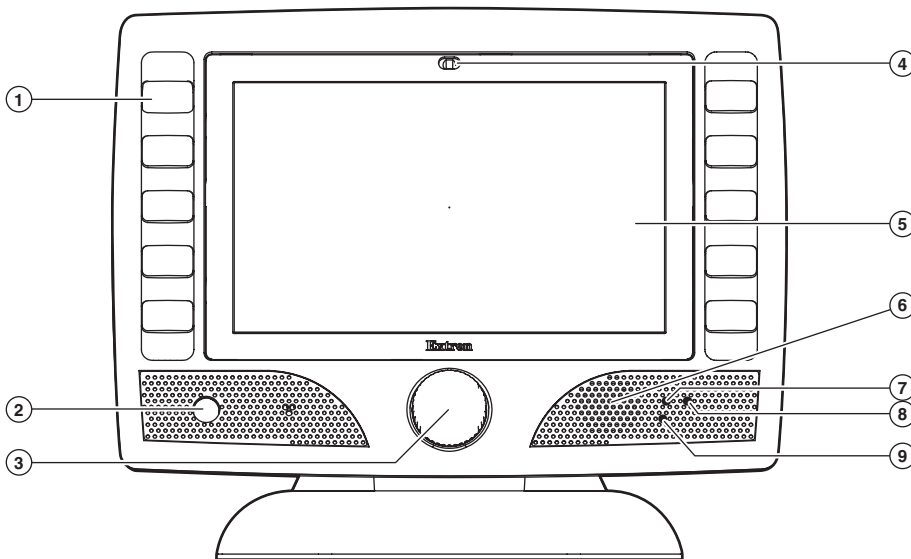
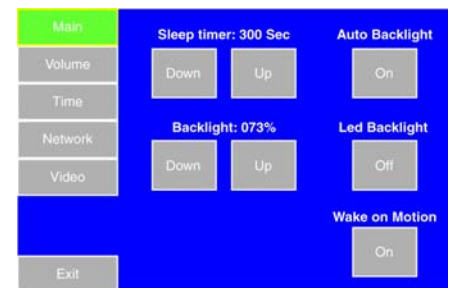

Figure 1. Front panel
Figure 8. Setup Screen
1. Use a paper clip to press the recessed menu button (Ⓢ), as shown in figure 1. This opens the setup menu at the Main Setup Page (see figure 8).